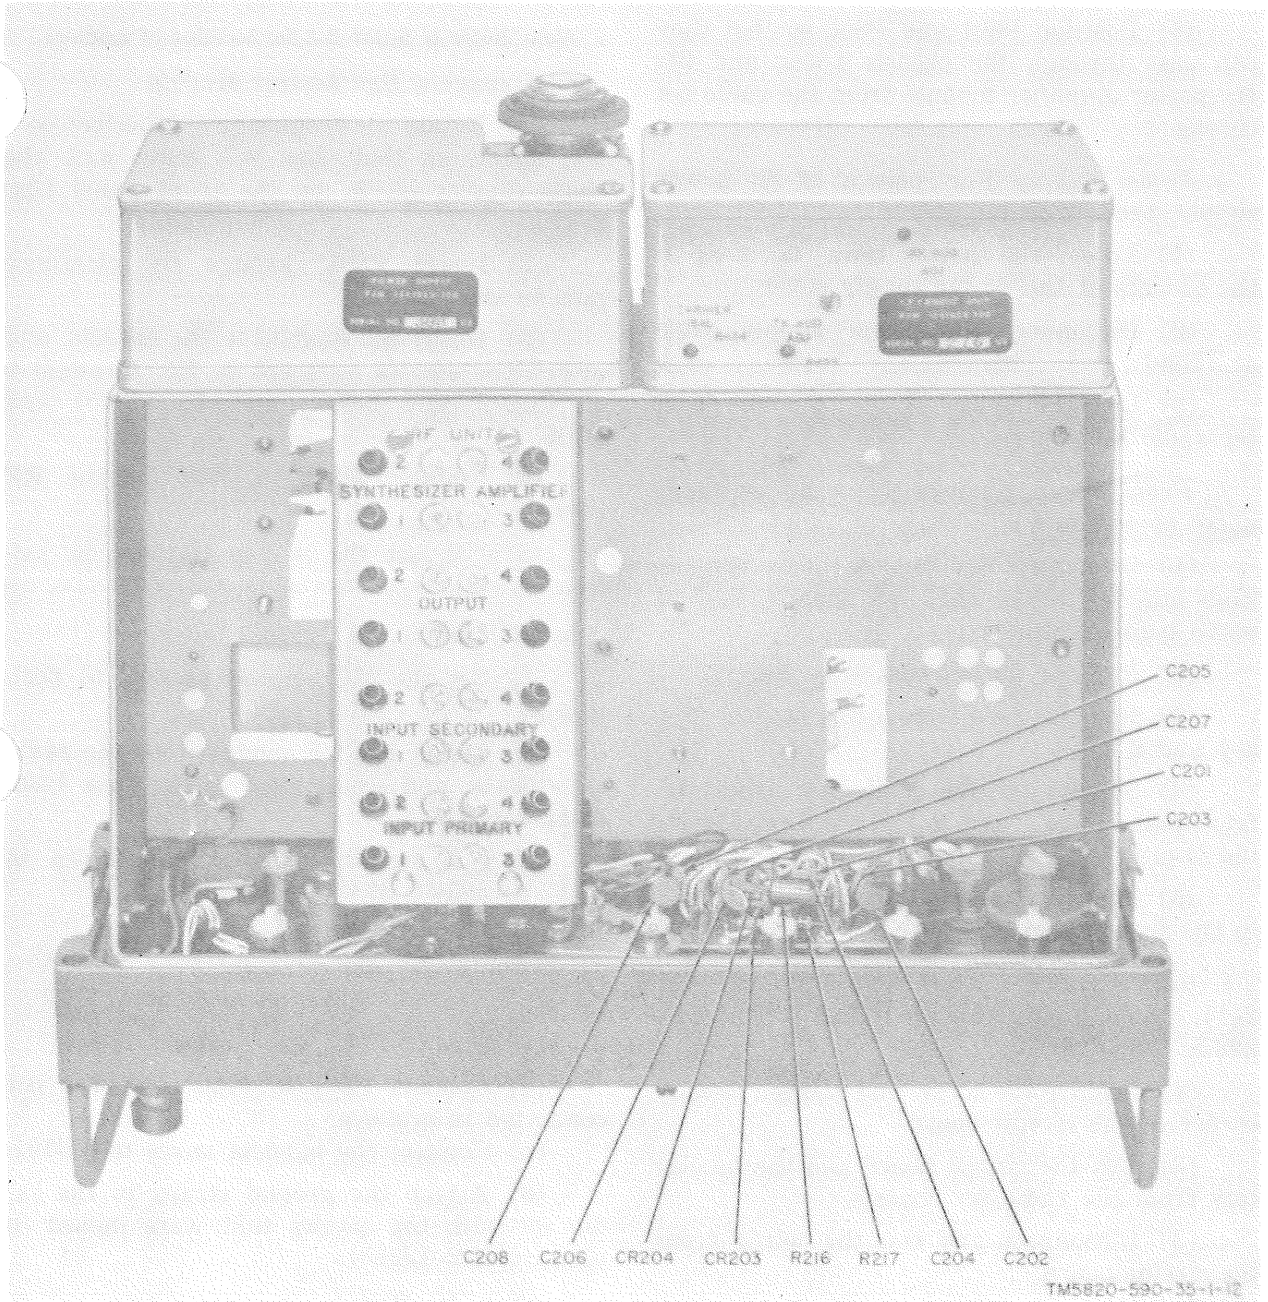

Figure 2-11. Radio set, modules removed.
- (2) Disconnect connector P601 from J703.
- (3) Rotate all synthesizer control shafts so that the rear drive portion of the white shaft coupler blocks is straight up and down (as shown in fig. 2-11).
coupler blocks (behind the panel) face the direction in which the power amplifier module is to be removed (fig. 2-11).
(1) Rotate the frequency synthesizer control shafts so that they will mate with the shaft coupler blocks on the front panel (fig. 2-11).
(2) Insert P601 through the clearance hole in the chassis.
(3) Insert the module in the chassis, and attach the screws adjacent to E5, terminal 9 of TB202, and below connectors P601 and P202.
(4) Connect P601 to J703 of the RF module.
(5) Connect the wiring harness to TB601.
(1) Insert coaxial connectors P801 and P802 through the holes in the radio set chassis.
(2) Rotate the ANT LOAD and ANT TUNE control shafts so that they can mate with the white shaft coupler blocks on the front panel (fig. 2-11).
(3) Position the module in the radio set chassis, and secure it with the screws adjacent to terminals 1, 4, and 7 of TB801.
(4) Connect the antenna wires to TB802.
(1) Place the power supply module on the radio set chassis, and secure it with the three screws in the corners of the module cover (fig. 2-11).
(2) Connect the power supply module cable to TB201.